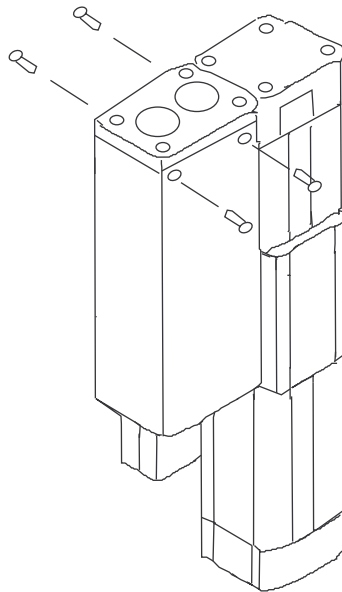

Figure B-1. Motor Cover Removal
1. Remove the four motor cover screws and pull off the motor cover (see Figure B-1).